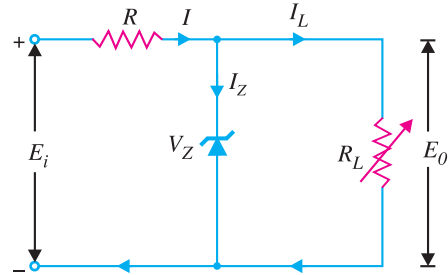

Fig. 6.59
2. Fixed E_i and Variable R_L . This case is shown in Fig. 6.59. Here the applied voltage (E_i) is fixed while load resistance R_L (and hence load current I_L) changes. Note that there is a definite range of R_L values (and hence I_L values) which will ensure the zener diode to be in “on” state. Let us calculate that range of values.
* If you remove the zener in the circuit shown in Fig. 6.59, then voltage V across the open-circuit is